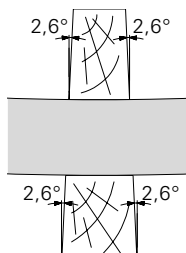

Fig. A16.01
- In order that the effectiveness of the Alignment Coupler BFD (20) is not impaired, the panels may not deviate from the centre more than 2.6° . (Fig. A16.01)
- Filler timber width of the inner compensation (50) = min. 4 cm.